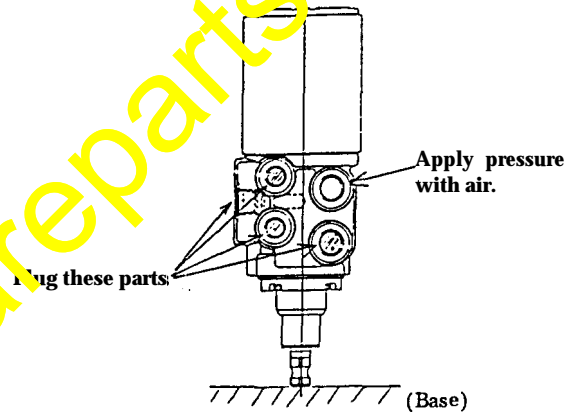

Fig. 5
5) Remove oil seal ⑤ and spacer ⑥ as described below. (Fig. 5)